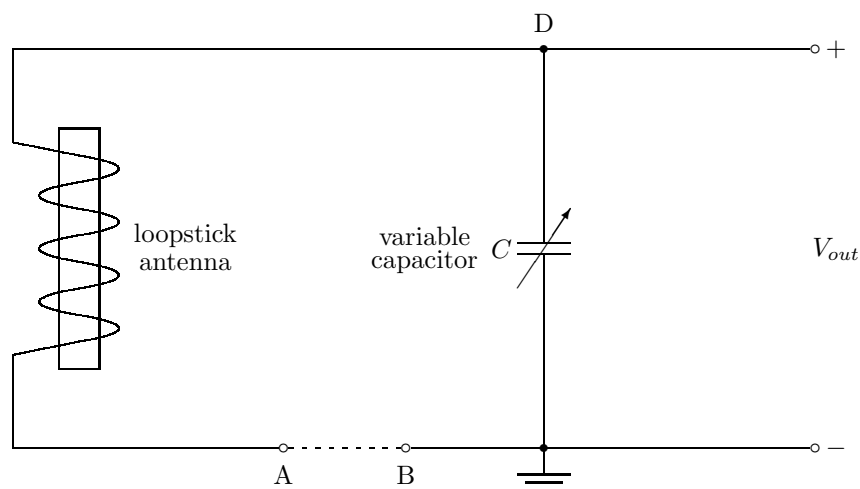

Figure 6.0.1: Antenna/Font-end RLC Tuning Circuit (pre-amplifier and mixer not shown)
Recall that the front-end antenna/RLC tuning circuit consists of a loopstick antenna connected in parallel to a variable capacitor as shown in Fig. 6.0.1 below. In the radio, the voltage dropped across the variable capacitor serves as the input to the FET front-end amplifier. Recall that the Thevenin equivalent of the loopstick antenna is a voltage source, V_{ant} , in series with an inductor (L) and a resistor (R_{ant}). V_{ant} is proportional to the strength of the received radio signal. At each lab bench, there is a tuning circuit like the one shown below, except that the wire connecting points A and B has been removed, and points A and B are accessible via a BNC connector. The circuit has been mounted and made available to you so that you can see how it works without taking apart the pre-built front-end box.
Connect the function generator via a BNC cable to points A and B in Fig. 6.0.1. Place the scope input across the variable capacitor to measure V_{out} . Use the 10x scope probe (these are grey instead of black) for this measurement. These probes are specially designed to have low capacitance (i.e., about 13 pF) so they will not unduly affect the total capacitance (i.e., capacitance of the variable capacitor + capacitance of the probes) that the loopstick antenna sees. Because we are using a 10x scope probe, on the scope you should press the appropriate channel button (1 or 2) and change the Probe setting from 1x to 10x so that your measurements are displayed correctly.
- Leave the generator connected to points A and B of the RLC circuit shown in Fig. 6.0.1 and the scope probe connected across the variable capacitor to measure V_{out} . With the variable capacitor half-closed, measure the frequency response function, i.e. $V_{out}(j\omega)/(\text{function generator p-p voltage setting})$. From your data compute the resonant frequency, f_{res} , and the 3 dB bandwidth, $BW_{3\text{dB}}$ of the resonant response.